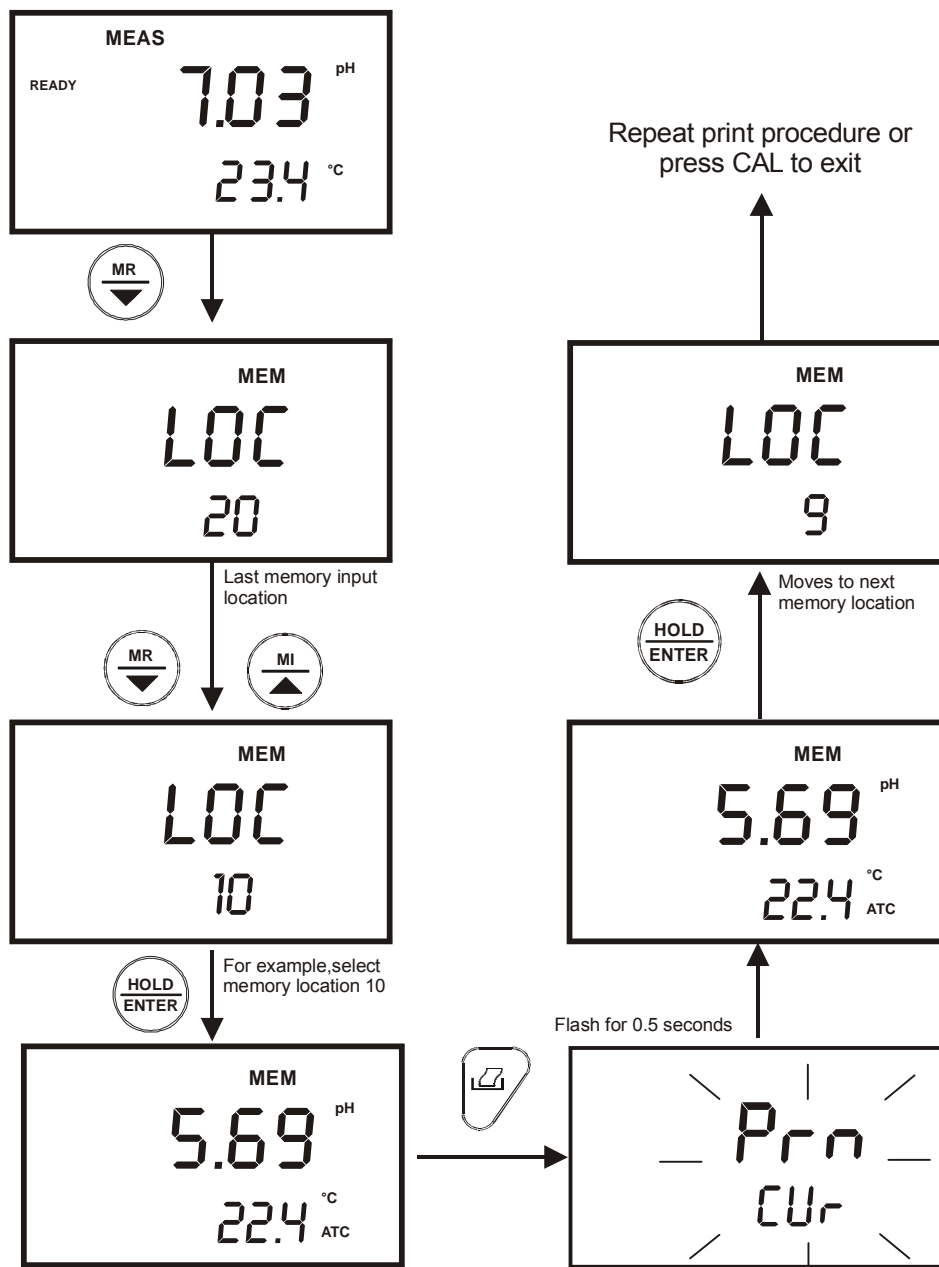

Figure 27: Print based on selected stored data from memory
6. Press HOLD/ENTER key. The meter is now ready to recall the next stored data in the following memory location. See Figure 27.